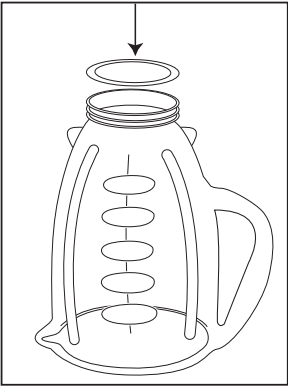

FIGURE 2
3. Place sealing ring over jar opening. *(Figure 2)*